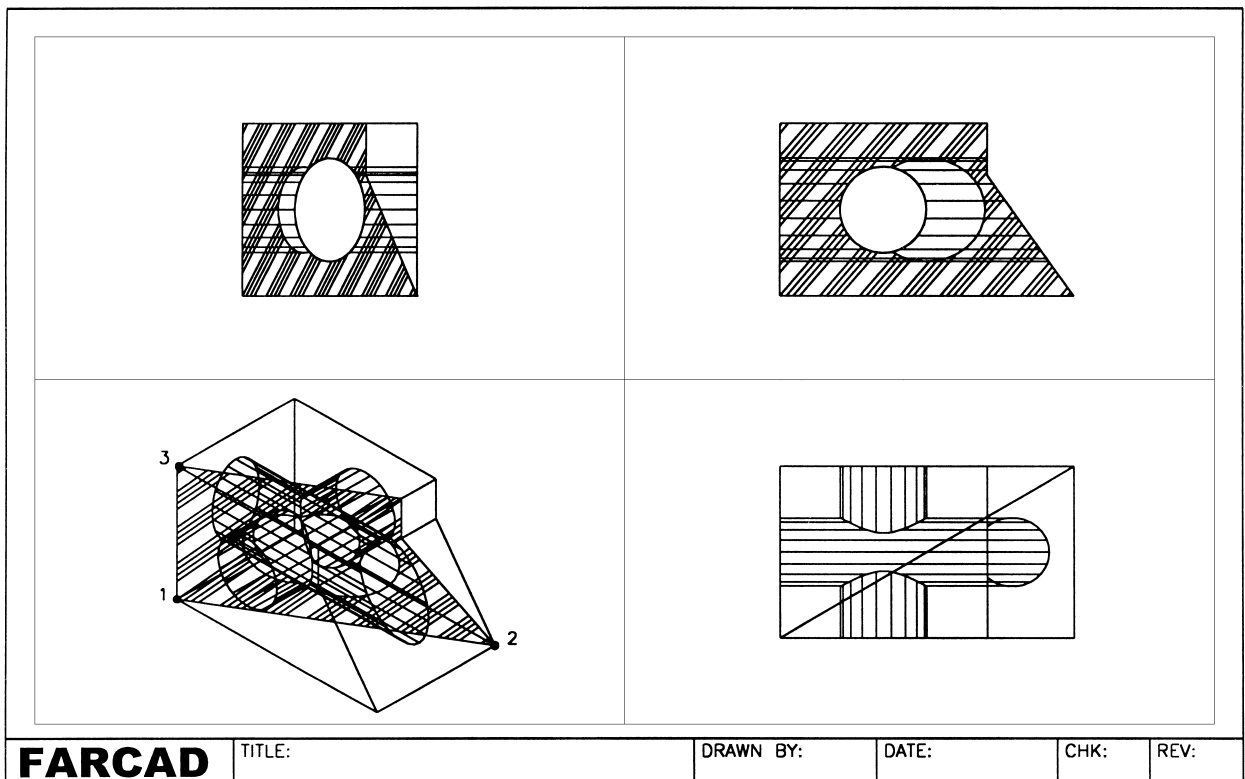

Figure 38.4 Section example with model SLIPBL plotted without hide.
- 1 Open the drawing file MODR2000\SLIPBL from chapter 37, MVLAY1 tab, UCS BASE, layer MODEL and the lower left viewport active. Refer to Fig. 38.4